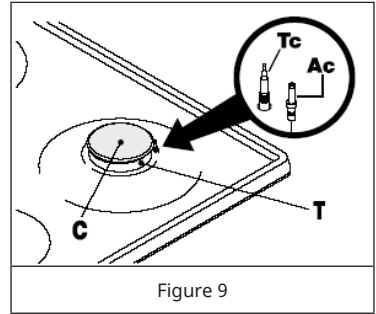

Figure 9
(only certain versions, see figure 9, ref. Ac)
(only certain versions, see figure 9, ref. Tc)
1. In case burners are fitted with Flame Safety Device (FSD = Thermocouple, figure 9, Tc), repeat operations described previously.
- The surface of the hob, pan supports, enamelled burner caps (C) and burner heads (T) (see figure 9) need to be cleaned after each time they are used with warm soapy water, rinsed and then dried well to keep them in good condition. Never clean when the top and components are still warm.
- Check that the heads burners and the relative burner caps are correctly positioned in their housings (see figure 9).